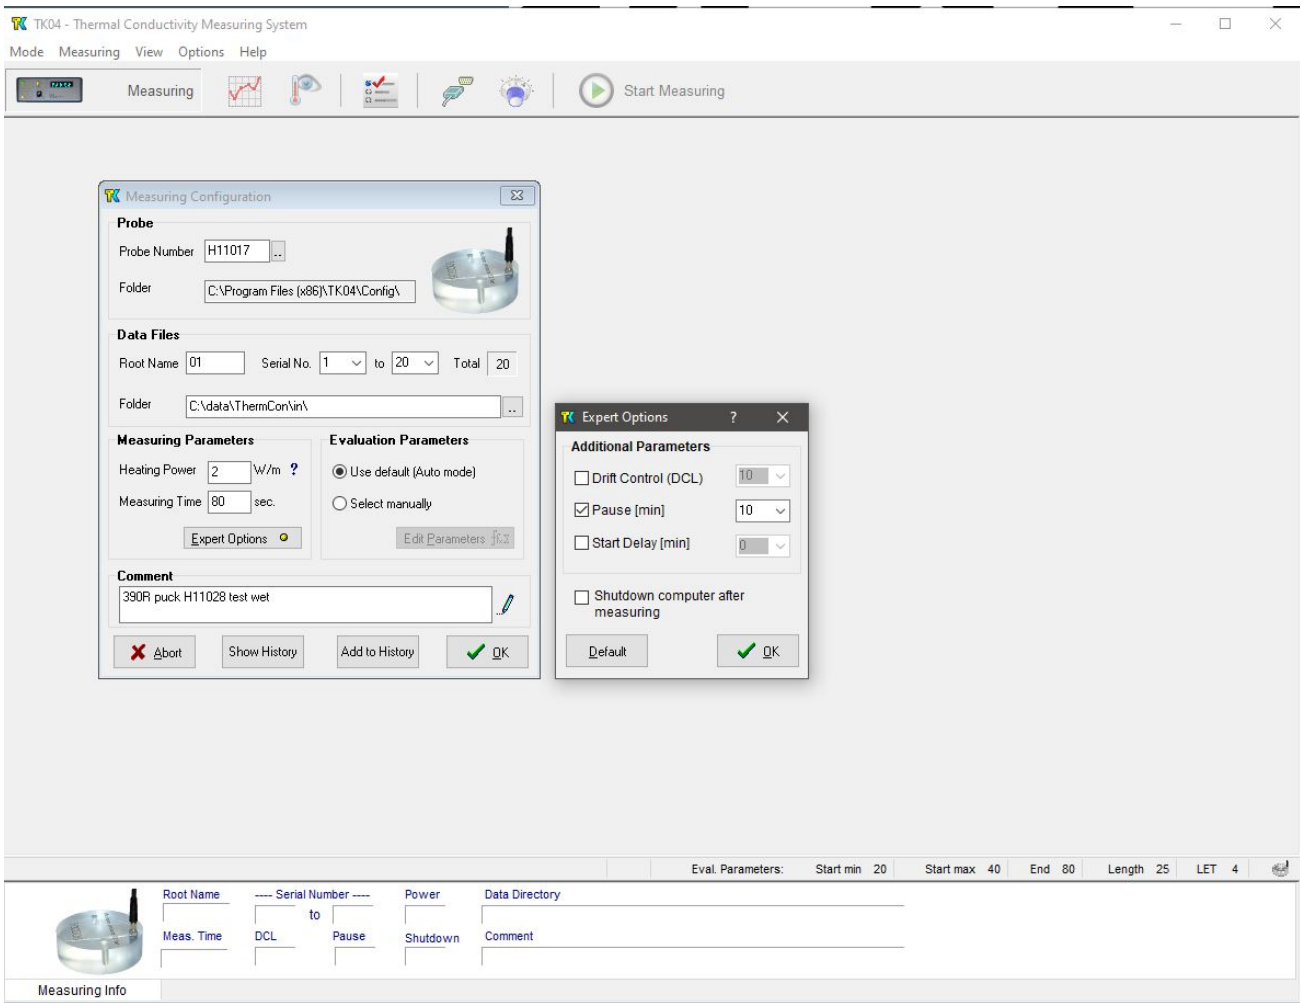

Figure 4. Left side: **Measuring Configuration** window. Right side: **Expert Options** window.
2. Select **Measuring > Configuration**, or click the blue button at center-upper part of the window. The **Measuring Configuration** window will open (Figure 4).